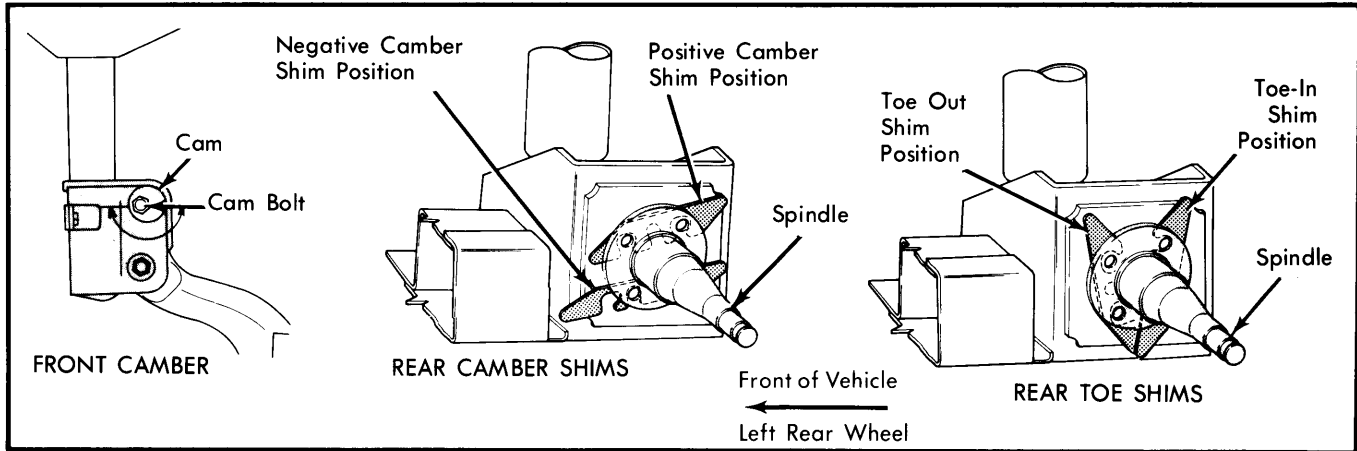

Fig. 10 Adjusting Front Camber, Rear Camber and Toe-In on Front Wheel Drive Models
All Models (Front Wheel Drive) – 1) To adjust camber, loosen cam and through bolts on each side. See Fig. 10. Rotate
2) To adjust camber of rear wheels, add .010" shims between spindle mounting surface and spindle mounting plate. See Fig. 10.